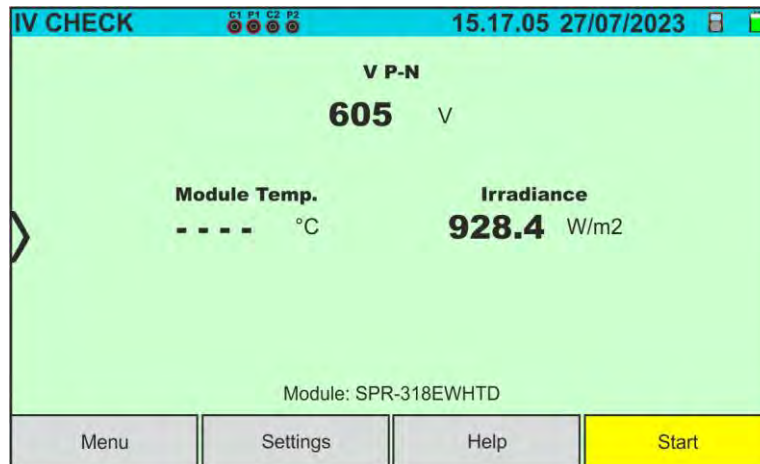

Fig. 53: Initial IVCK test screen without remote unit on Monofacial modules
4. In the case of **Monofacial** modules, the Fig. 53 screen is present on the display. The following parameters are shown: